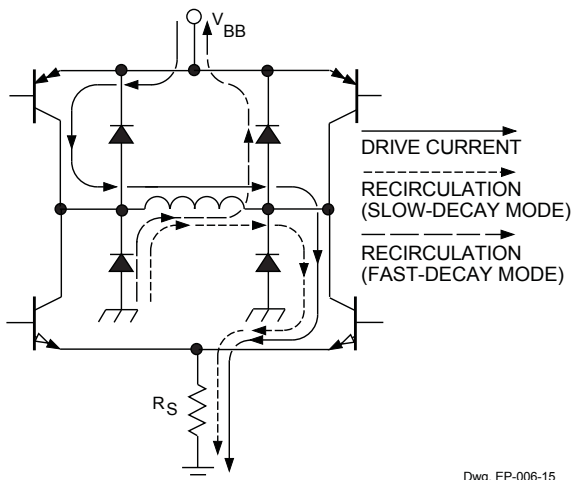
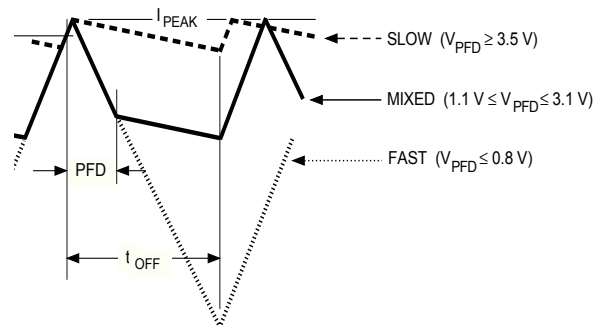

Figure 1 — Load-Current Paths
Figure 2 — Current-Decay Waveforms
**Internal PWM Current Control.** Each motor driver contains an internal fixed off-time PWM current-control circuit that limits the load current to a desired value ( $I_{TRIP}$ ). Initially, a diagonal pair of source and sink transistors are enabled and current flows through the motor winding and  $R_S$  (figure 1). When the voltage across the sense resistor equals the DAC output voltage the current-sense comparator resets the PWM latch,
**Slow Current-Decay Mode.** When  $V_{PFD} \geq 3.5$  V, the device is in slow current-decay mode (the source drivers are disabled when the load current reaches  $I_{TRIP}$ ). During the fixed off-time, the load inductance causes the current to recirculate through the motor winding, sink driver, ground clamp diode, and sense resistor (see figure 1). Slow-decay mode produces low ripple current for a given fixed off-time (see figure 2). Low ripple current is desirable because the average current in the motor winding is more nearly equal to the desired
**Fast Current-Decay Mode.** When  $V_{PFD} > 0.8$  V, the device is in fast current-decay mode (both the sink and source drivers are disabled when the load current reaches  $I_{TRIP}$ ). During the fixed off-time, the load inductance causes the current to flow from ground to the load supply via the motor winding, ground-clamp and flyback diodes (see figure 1). Because the full motor supply voltage is across the load during fast-decay recirculation, the rate of load current decay is rapid, producing a high ripple current for a given fixed off-time (see figure 2). This rapid rate of decay allows good current regulation to be maintained at the cost of decreased average current accuracy or increased driver and motor losses.
As in fast current-decay mode, mixed-decay starts with the sink and source drivers disabled after the load current reaches  $I_{TRIP}$ . When the voltage at the RC terminal decays to a value below  $V_{PFD}$ , the sink drivers are re-enabled, placing the device in slow current-decay mode for the remainder of the fixed off-time (figure 2). The percentage of fast decay (PFD) is user determined by  $V_{PFD}$  or two external resistors.